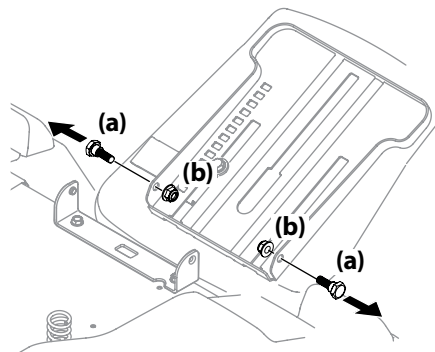

Figure 2-10
2. Remove the two shoulder screws (a) and flange lock nuts (b) in the seat pan as shown in Figure 2-10.